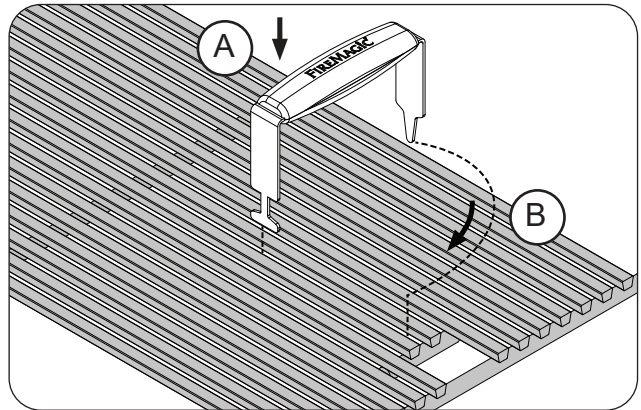
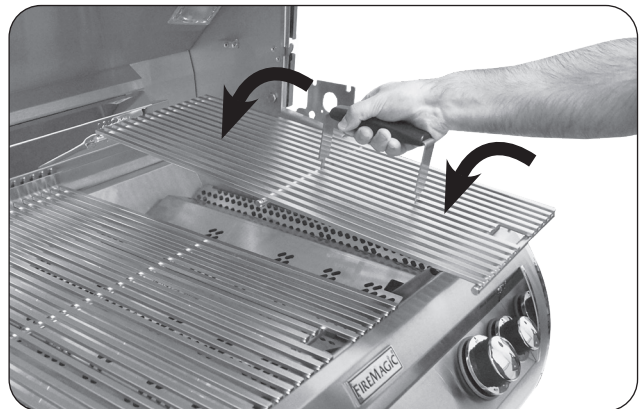

Fig. 24-2 Install cooking grids
Fig. 24-3 Install cooking grids
1. With the prongs facing downward, insert the notched-end of the lifter between two grid rods, then rotate, as shown in Fig. 24-2, A & B.
2. Insert the rear pointed-end of the lifter between the same two rods (Fig. 24-2, B) and carefully lift the cooking grid and place onto the front and rear grid rests of the grill (see Fig. 24-3). Repeat for all other cooking grids.